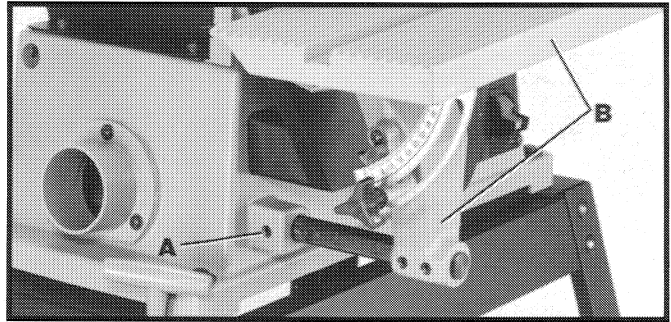

Fig. 44
2. Loosen screw (A) Fig. 44, and remove table assembly (B).